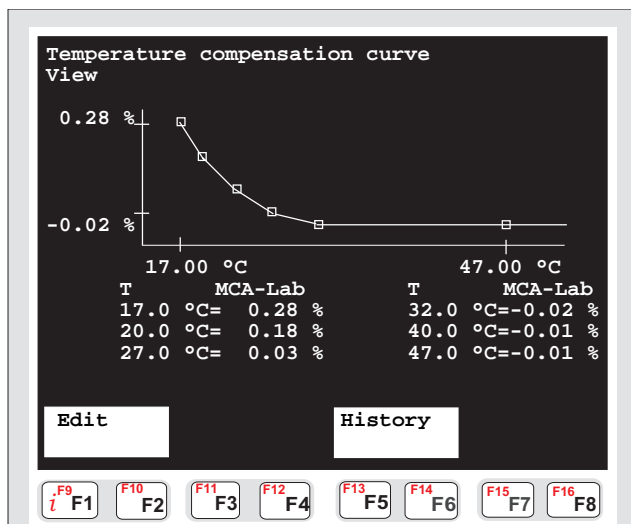

Fig. 9.9. “Temperature compensation curve” display.
1. Go from MAIN MENU => SELFDIAGNOSTICS => SPECIAL FUNCTIONS => TEMPERATURE COMPENSATION CURVE (Fig. 9.9).